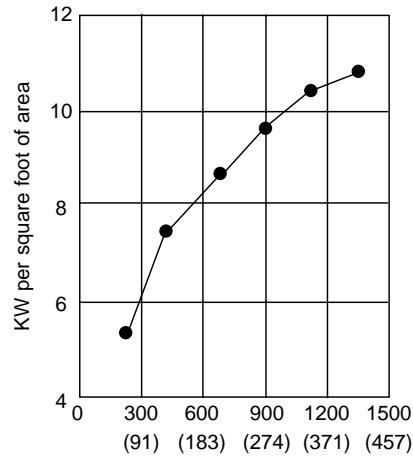
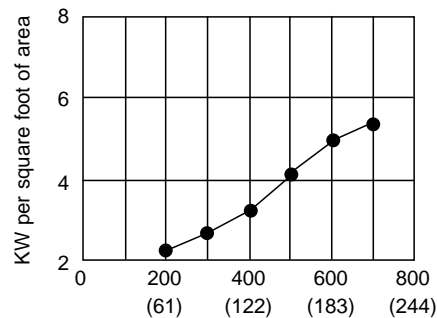

Figure 72A. Minimum air velocity required for ULTRA-SAFE™, feet per minute (meters per minute)
Figure 72B. Minimum air velocity required for EP2 feet per minute (meters per minute)
**Minimum air velocity** for safe operation is determined by dividing the heater KW by the cross-sectional duct area:  $KW / Sq. Ft. = KW / (W \times H / 144)$  where W and H are duct width and height in inches. For ULTRA-SAFE™ duct heaters, use the minimum W x H dimensions shown in the Heater Listing on page 51. Read the minimum velocity from the horizontal axis of Figure 72A for ULTRA-SAFE™ Duct Heater or Figure 72B for Series EP2 heaters.